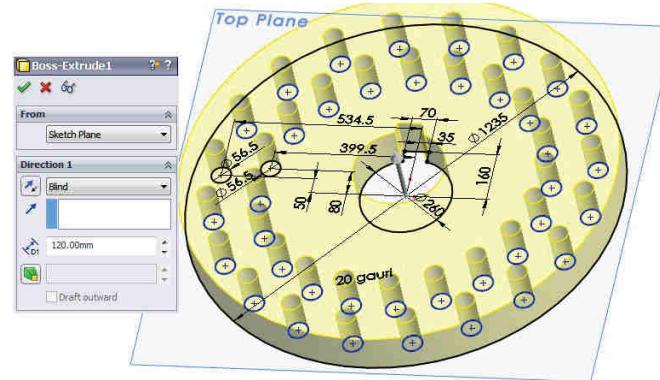

Fig. 3.26
**2 Extrudare contur  $\phi 1235 \times \phi 56.5 \times 40$ :** comanda Extruded Boss/Base - Fig. 3.26 - Blind /  $d_1$  120 mm distanță /
**2 Extrusion of the  $\phi 1235 \times \phi 56.5 \times 40$  contour:** the Extruded Boss/Base command - Fig. 3.26 – Blind /  $d_1$  120 mm distance /